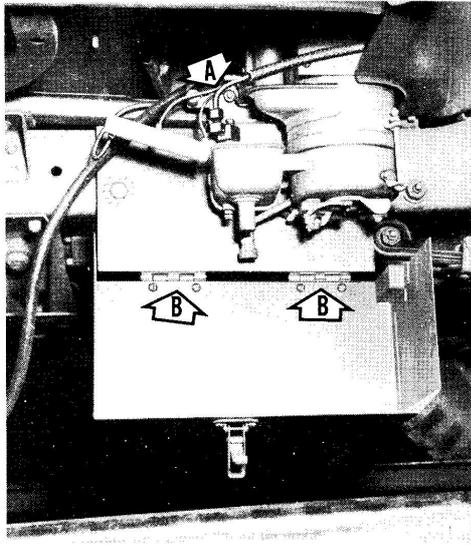

Fig. 27. (A) Fuel line connected to heater inlet.
- c. Connect the other end of the fuel line to the 90° elbow on the heater inlet, Fig. 27.
- a. Attach the heater cover assembly to the heater mounting bracket, Fig. 27.